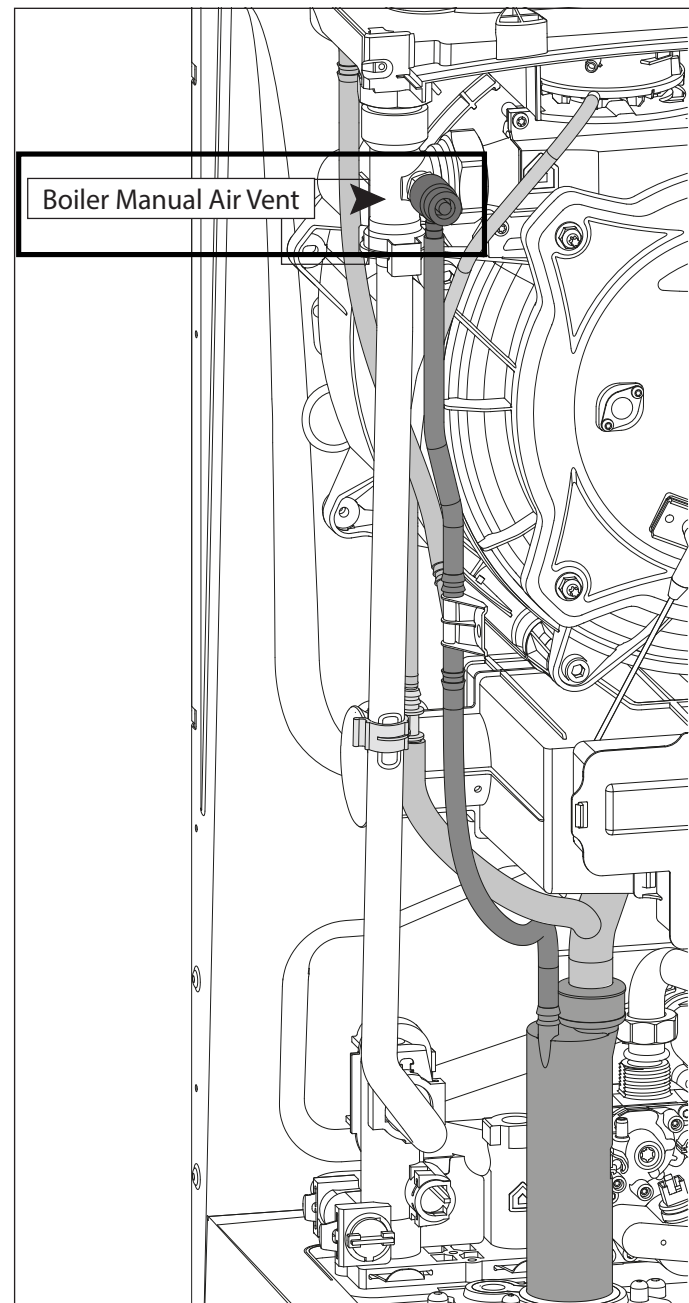

Figure 54 - Condensate Trap Filling
6. Local building codes may require an in-line neutralizer to be installed (not included) to treat the condensate. See Figure 54. If required by local authorities, a condensate filter of lime crystals, marble, or phosphate chips will neutralize slightly acidic condensate (p/n 7450P-212 available from HTP). Follow all the installation instructions included with the neutralizer. If a neutralizer is installed, periodic replacement of the limestone (or neutralizing agent) will be required. The rate of depletion of the limestone varies with usage of the boiler. During the first year of boiler operation, check the neutralizer every few months for depletion.
Ensure the siphon contains water. If the siphon does not contain water it must be filled. Open the manual air vent on the main heat exchanger until filling is complete. See Figure 54. Check the system pressure with a pressure gauge.